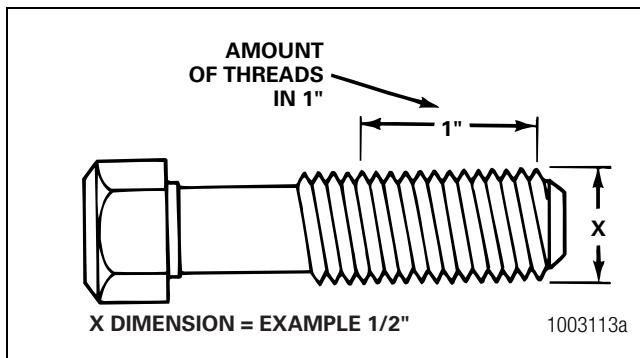

Figure 8.1
1. Measure the diameter of the threads in inches, dimension X. Figure 8.1.
2. Count the amount of threads in one-inch. Figure 8.1.